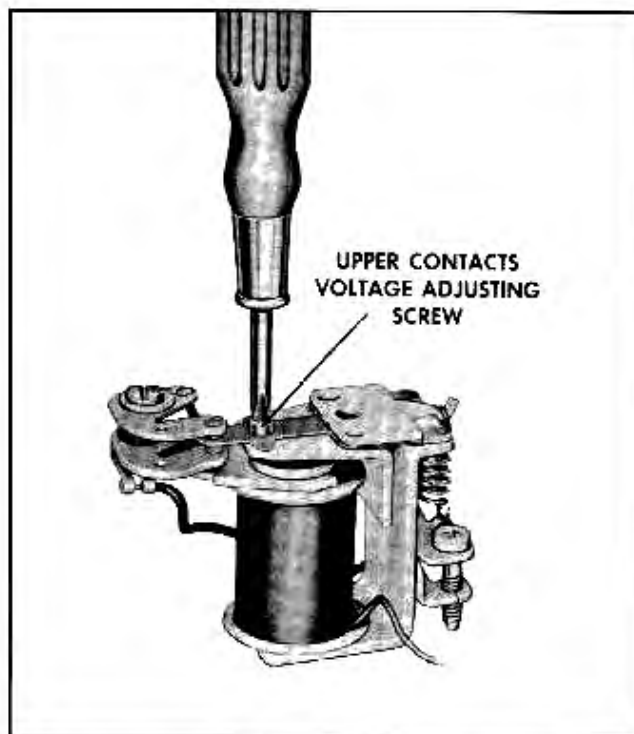

Fig. 12-17 Adjusting Voltage Setting of Upper Contacts
6. Increase resistance slowly until regulator begins to operate on the upper contacts. The voltmeter should indicate a slight drop in voltage of .3 to .5 volts. This differential voltage may be increased by turning the air gap adjusting screw (located on the armature) (Fig. 12-17) in a clockwise direction and decreased by turning it counterclockwise. Air gap adjustment should seldom be necessary on this regulator. However, if the adjustment screw is turned, it will also affect the setting of the regulator, so that the voltage adjustment procedure must be repeated. The regulator must be cycled each time before taking voltmeter readings, as previously described.